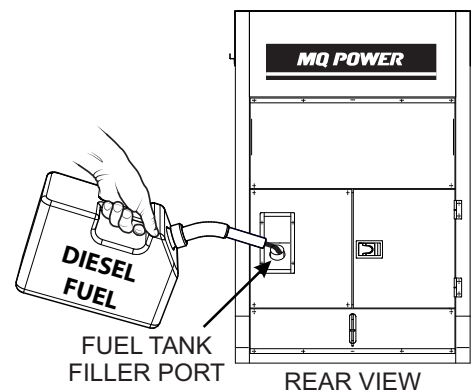

Figure 39. Fueling The Generator
2. Remove the fuel cap and fill the tank as shown in Figure 39.